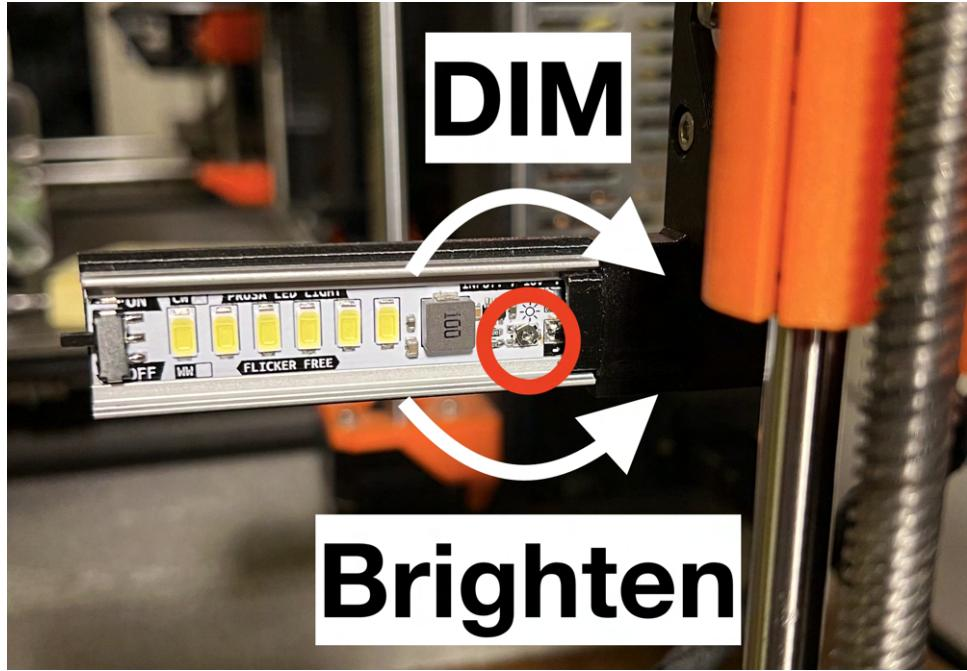

Figure 20: Caption
3. After the diffuser is removed you can adjust the brightness by turning a small potentiometer marked in the red circle in Figure 20. By turning the potentiometer clockwise you will reduce the brightness, turning it anti-clockwise will increase the brightness. **NOTE**, its recommended to use a plastic screwdriver to not shorten anything. If you use a metallic screwdriver you might experience a flickering in the light while adjusting. This is not dangerous and is only a visual effect, the reason is you create a new current path for the feedback loop.